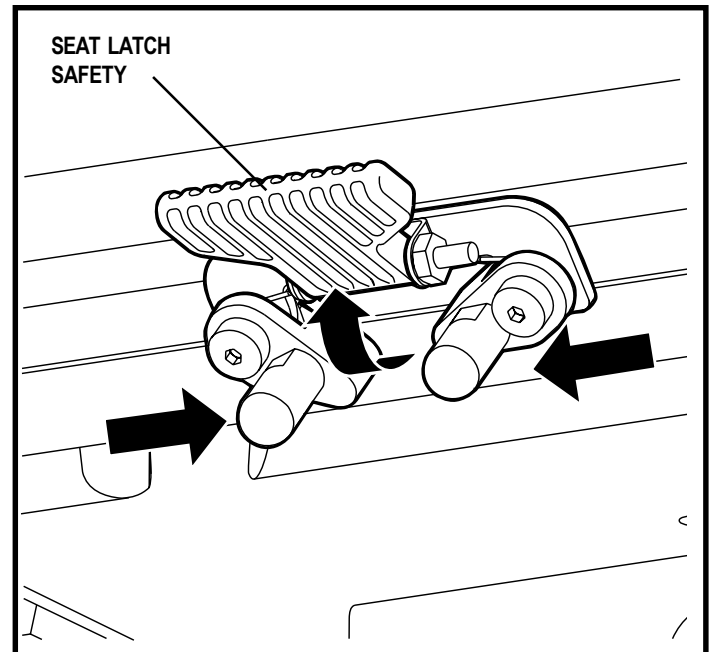

Figure 10. Seat Latch
4. Flip the seat latch safety down. See figure 10.
4. Flip up the seat latch safety. See figure 10.